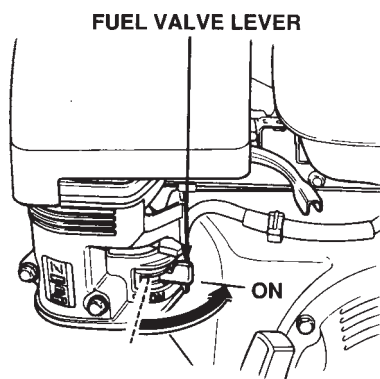

Figure 9. Fuel Shut-Off Lever
1. Move the fuel shut-off lever (Figure 9) to the **ON** position.